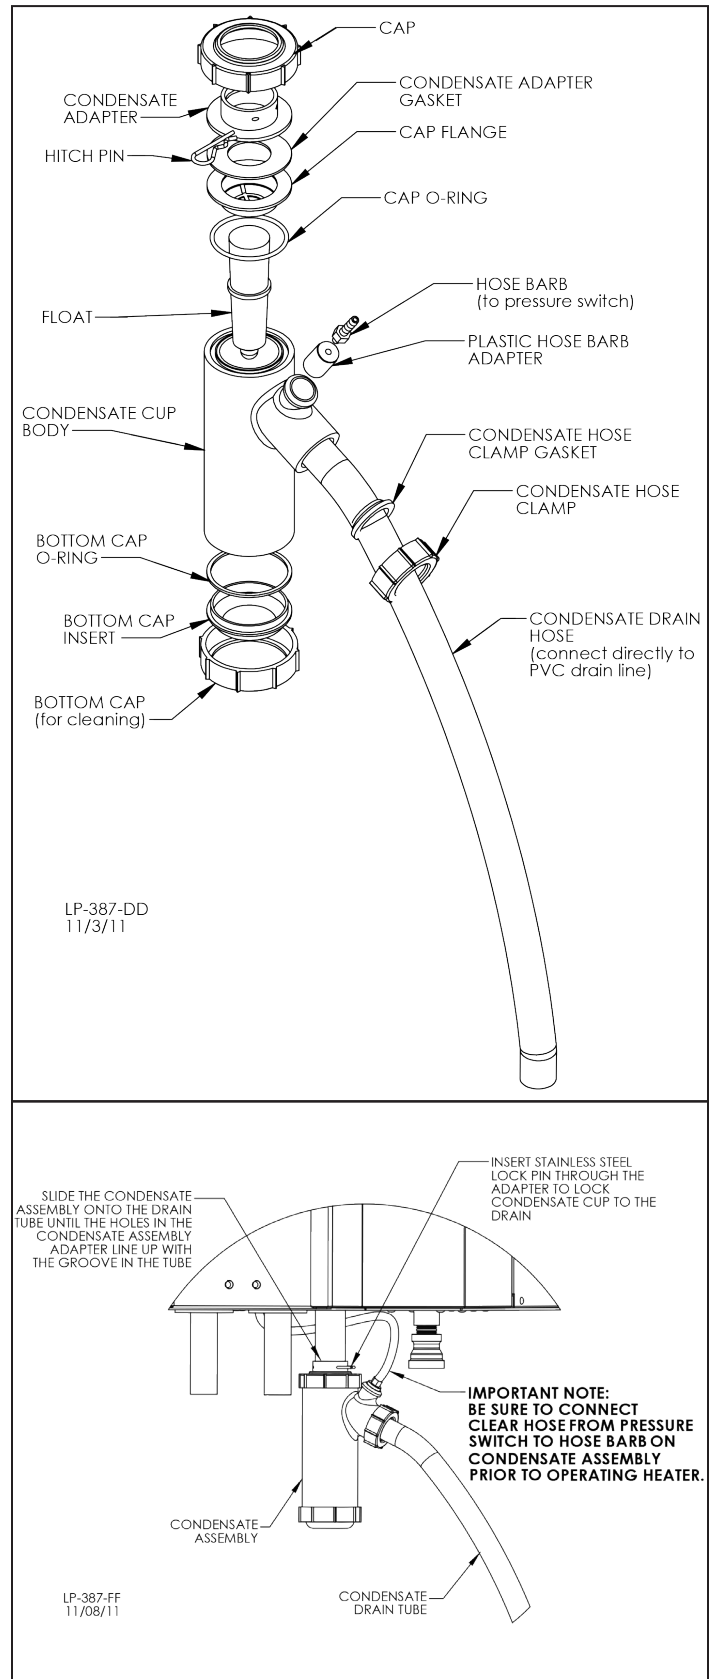

Figure 36 - Condensate Detail
- NOTE:** Ensure all parts shown in Figure 36, Condensate Detail, are installed with the condensate trap. If any parts are missing, **DO NOT** reinstall the trap. Replace the entire assembly.